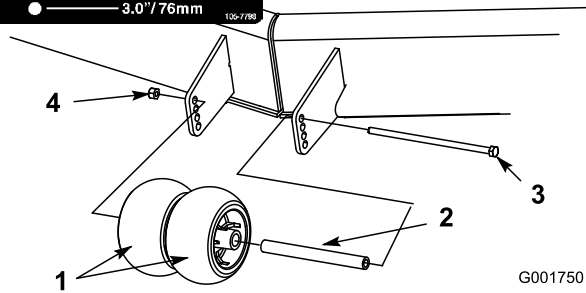

Figure 19
3. After adjusting the height-of-cut, remove the flange nut, bushing, and bolt (Figure 19).
4. Select a hole so that the center rollers are positioned to the nearest corresponding height-of-cut desired (Figure 19).
5. Install the center rollers, bushing, spacer, bolt, and nut (Figure 19).